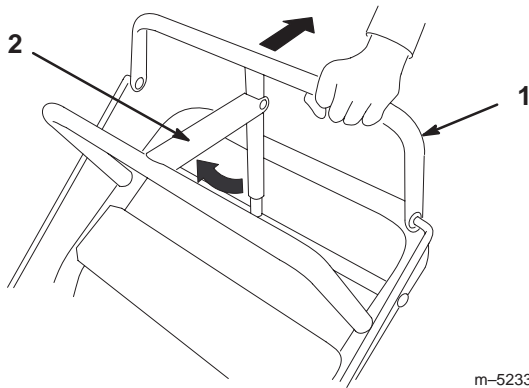

Figure 12
1. Pull the upper control bar (Fig. 12) rearward and hold it in this position.
2. Lift the parking brake lock (Fig. 12) up and gradually release the upper control bar. The brake lock should stay in the set (locked) position.
1. Pull rearward on the upper control bar (Fig. 12). Lower the parking brake lock to the released position.